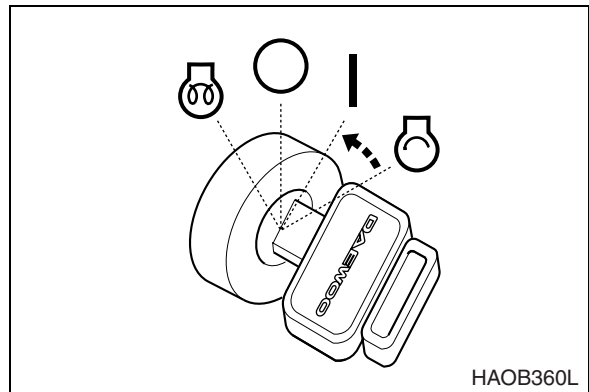

Figure 11
6. After engine has started, release key. Key will return to "I" (ON) position (Figure 11).